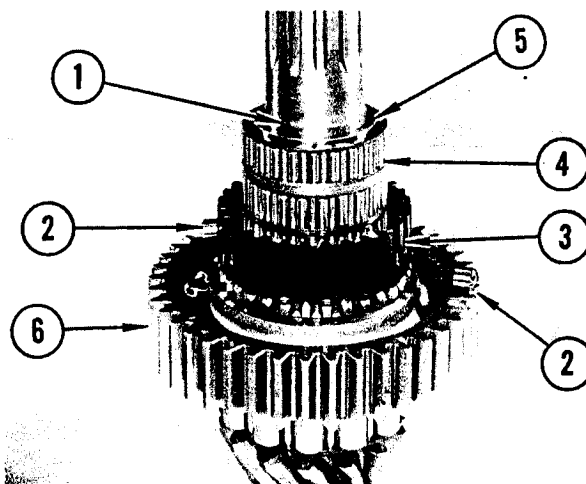

FIGURE 92. 1ST GEAR REMOVAL
Refer to Figure 92. Lift shifter collar from shifter gear (3). Remove lockpin (1) from shaft. Remove poppets and springs (2) from shifter gear (3). Remove bearing (4). Install puller on first gear and remove the following parts; bearing inner race (5), shifter gear (4) and first gear (6).